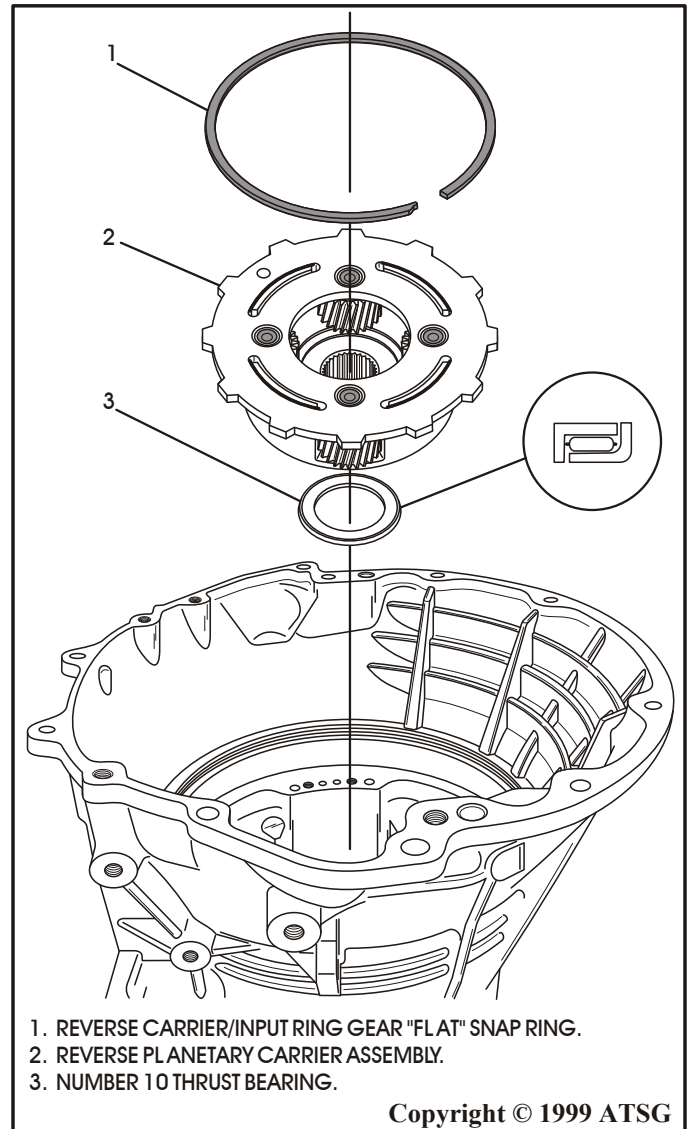

Figure 114
20. Install the number 10 thrust bearing assembly onto the reverse planetary carrier in direction shown in Figure 114, and retain with a small amount of TransJel®.
22. Install the reverse carrier/input ring gear *flat* snap ring into the groove in the input internal ring gear (See Figure 114).